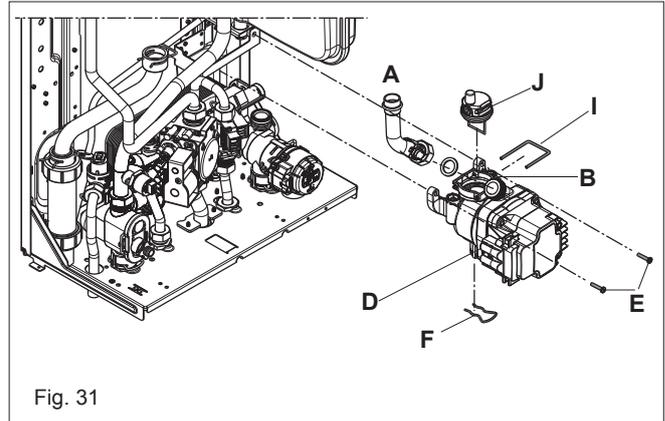

Fig. 31
7.6 PUMP ASSEMBLY (FIG. 31)
7.8 LOWER AUTOMATIC AIR RELEASE VALVE (FIG. 31)